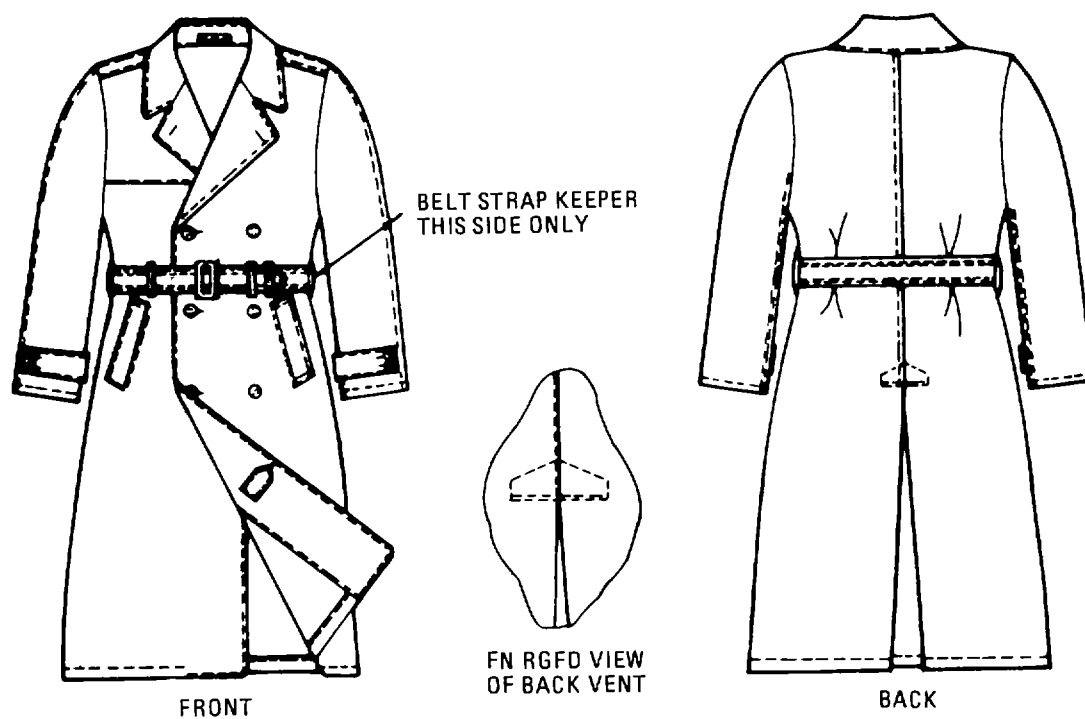

Figure 13-2. Raincoat, man's cotton and nylon, AG274.
- b. Raincoat, man's, cotton and polyester/poplin quarapel treated. AG274, NSN 8405-00-965-2145 through 8405-00-965-2171. The raincoat is of six button, double-breasted design with lapel collar, shoulder loops, and sleeve tabs. It has an all-around belt with plastic slide buckle, inside hanging-slash pockets, with center vent (fig. 13-2).